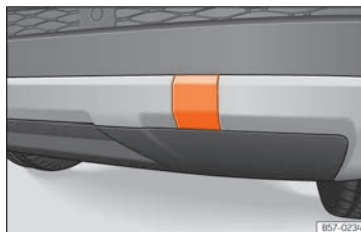

Fig. 103 Rear bumper on right: remove the lid.
The housing of the screw towing eye is on the right side of the rear bumper behind a lid » **Fig. 103**. Vehicles equipped as standard with a towing bracket **do not** have any housing for the screw towing eye behind the lid. In this case, the tow hitch needs to be extracted
- Press the upper side of the lid » **Fig. 103** to unclip it.